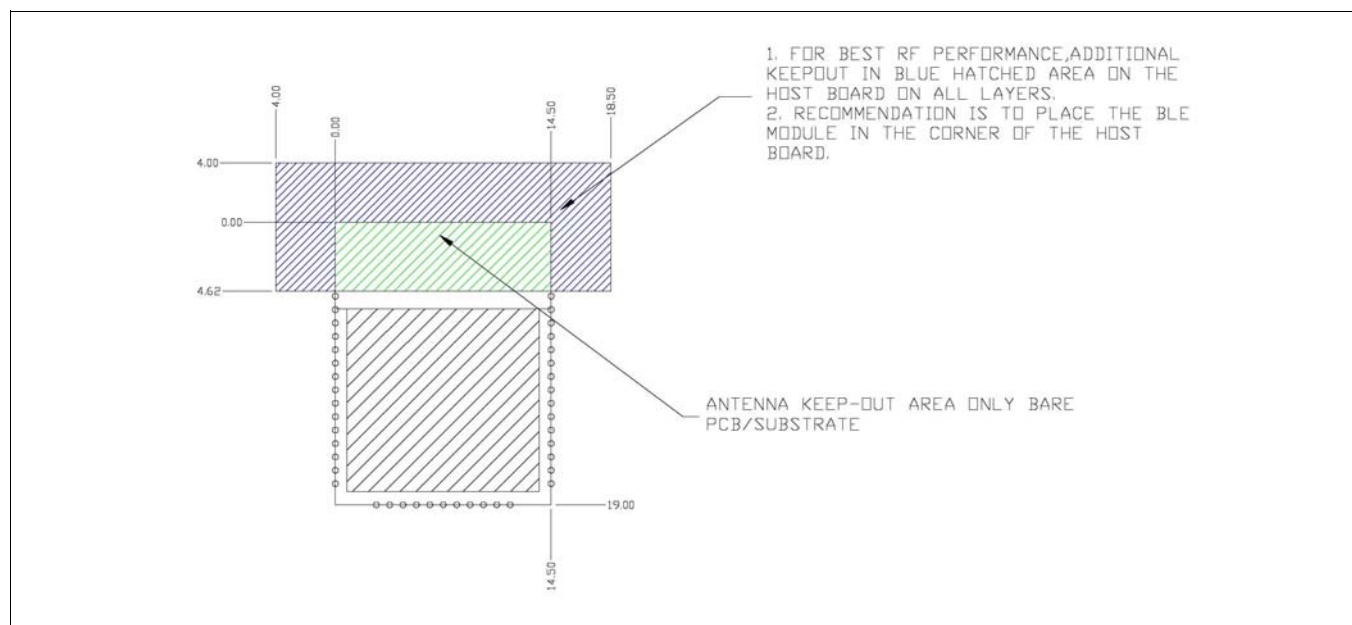
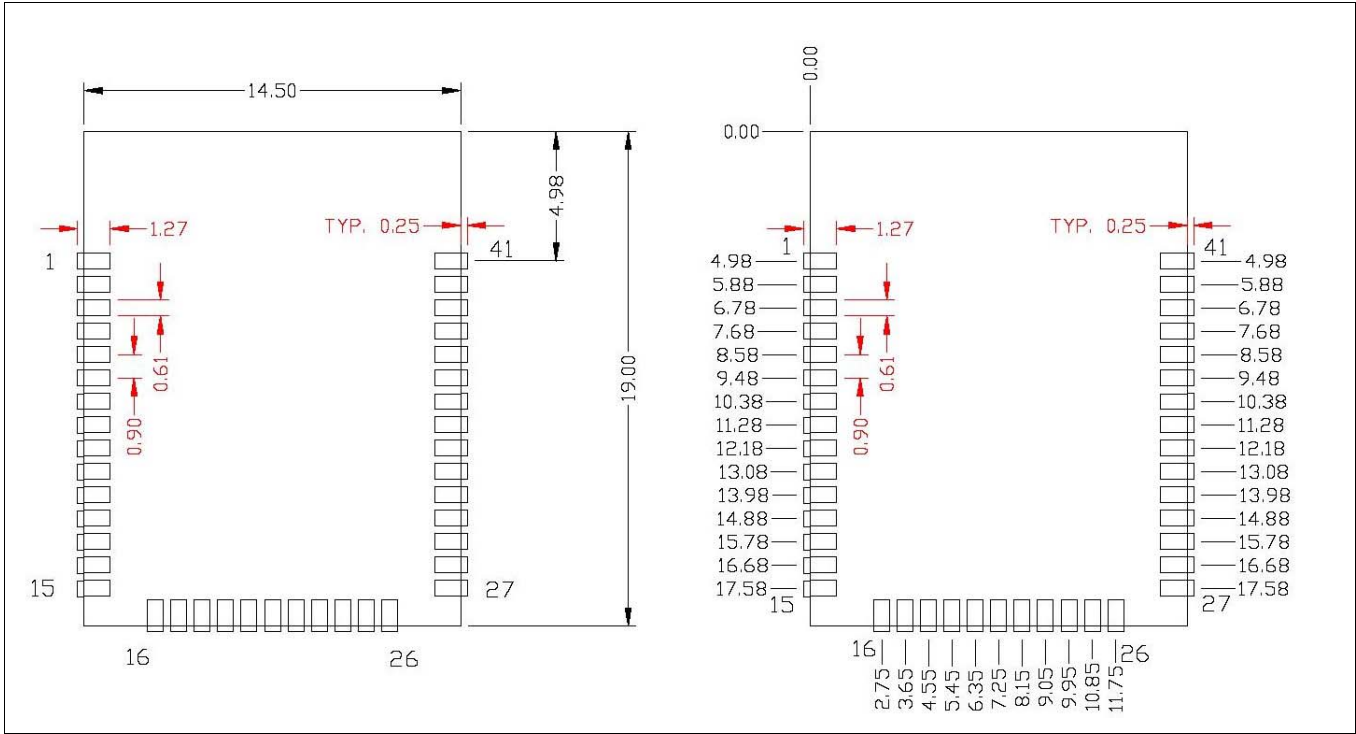

Figure 4 Recommended host PCB keepout area around the CYW20829B0-P4XXI100 antenna
Figure 5 CYW20829B0-P4XXI100 host layout (dimensioned)
1. Antenna Area Keepout: The host board directly below the antenna area of the module (see Figure 4) must not contain ground or signal traces. This keepout area requirement applies to all layers of the host board.
2. Module Placement: The ideal placement of the Bluetooth® module is in a corner of the host board with the PCB trace antenna located at the far corner. This placement minimizes the additional recommended keepout area stated in item 2. Refer to KBA97095 for module placement best practices.
Figure 5 provides details that can be used for the recommended host PCB layout pattern for the CYW20829B0-P4XXI100. Dimensions are in millimeters unless otherwise noted. Pad length of 1.27 mm (0.64 mm from center of the pad on either side) shown in **Figure 4** is the minimum recommended host pad length. The host PCB layout pattern can be completed using either **Figure 5**. It is not necessary to use all figures to complete the host PCB layout pattern.